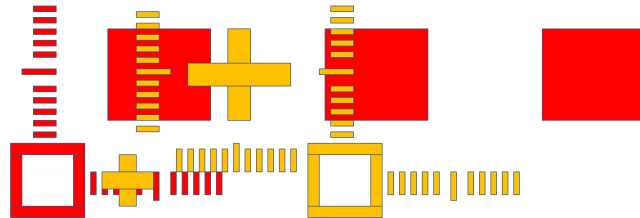

Figure 14 Typical misalignment when initially aligning the edge patterns.
- viii) More likely than not, the alignment marks will be offset by an x and y components (**Figure 14**).